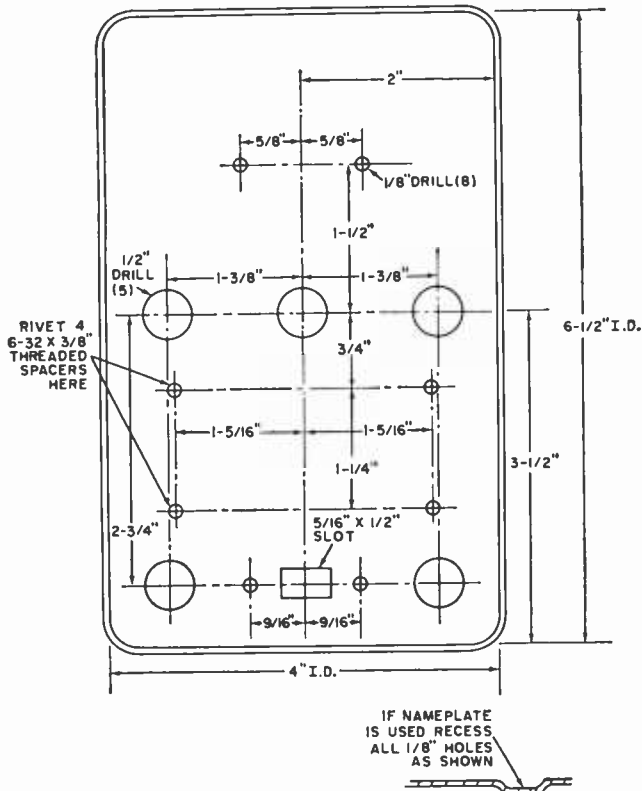

Fig. 4. You can use these dimensions to duplicate the front cover layout. Hole sizes should be made to accommodate your hardware and fittings.
**Construction.** The binary counter can be assembled in any small metal, wood, or plastic container. It is shown assembled in a 6" x 4½" x 1¼" aluminum box. A prefabricated METALPHOTO dialplate (see Parts List) can be put on the container cover to give the project a professional appearance. Layout and dimensions for drilling the cover are shown in Fig. 4. You can, however, lay out the counter differently, if you wish, since neither parts arrangement nor lead dress will affect operation of the unit.